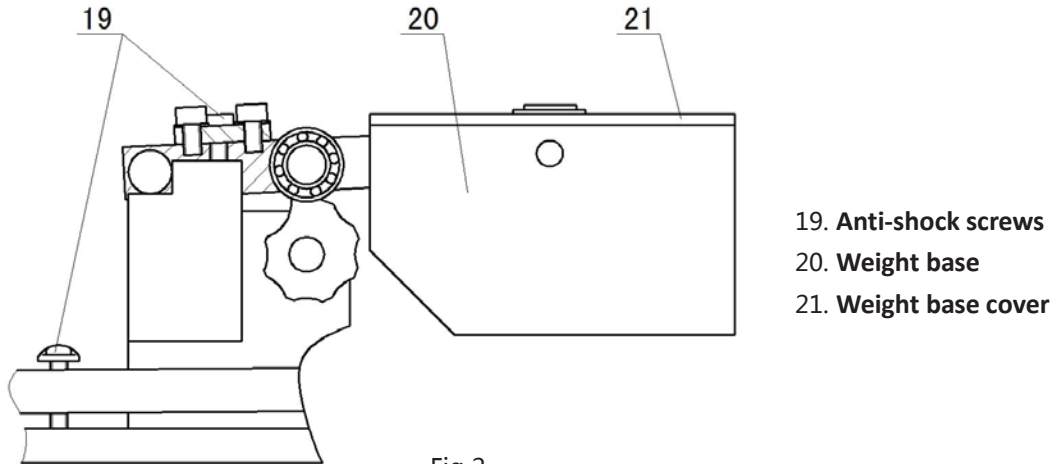

Fig 2
- 3.2.5 Open the upper cover and screw off the two anti-shock screws (see Fig.2);